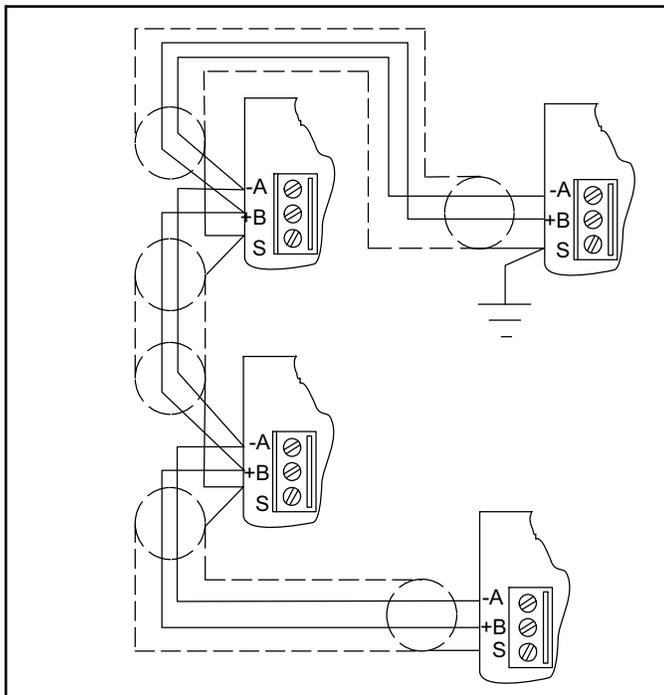
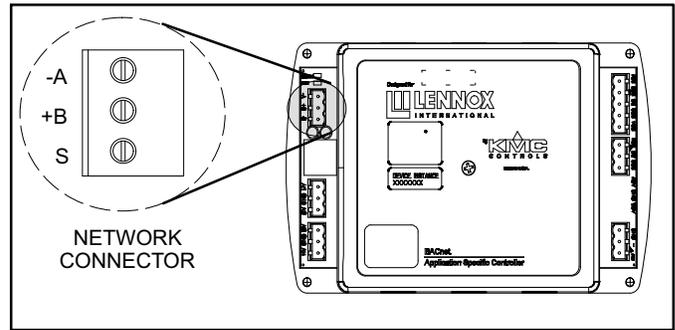

Figure 1. MS/TP Network Wiring
Figure 2. Network Connection
Connect the **-A** terminal in parallel with all other **-** terminals. Connect the **+B** terminal in parallel with all other **+** terminals. Connect the shields of the cable together at each controller using the **S** terminal. See figure 1 for MS/TP network wiring. It is recommended that the physical network be arranged in a daisy-chain topology.
4. Connect the BACnet network wiring to the BACnet module as shown in figure 1 to the BACnet network connector shown in figure 2.